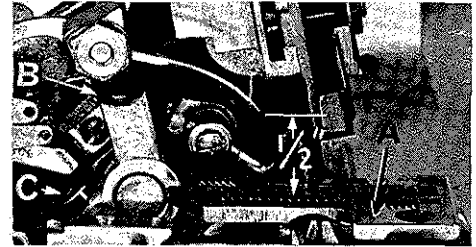

Fig. 3
With throat plate assembled in position, needle should center in the front end of needle slot. When needle is at high position, needle point should be set $\frac{1}{2}$ inch above throat plate (A, Fig. 3) for Style 39500 FN; $\frac{15}{32}$ inch for Styles 39500 FV, FX, GU and JX; and $\frac{33}{64}$ inch for Style 39500 GP. To align needle or set the height above the throat plate, move needle driving arm (B, Fig. 3) by loosening clamp screw (C). Remove throat plate.